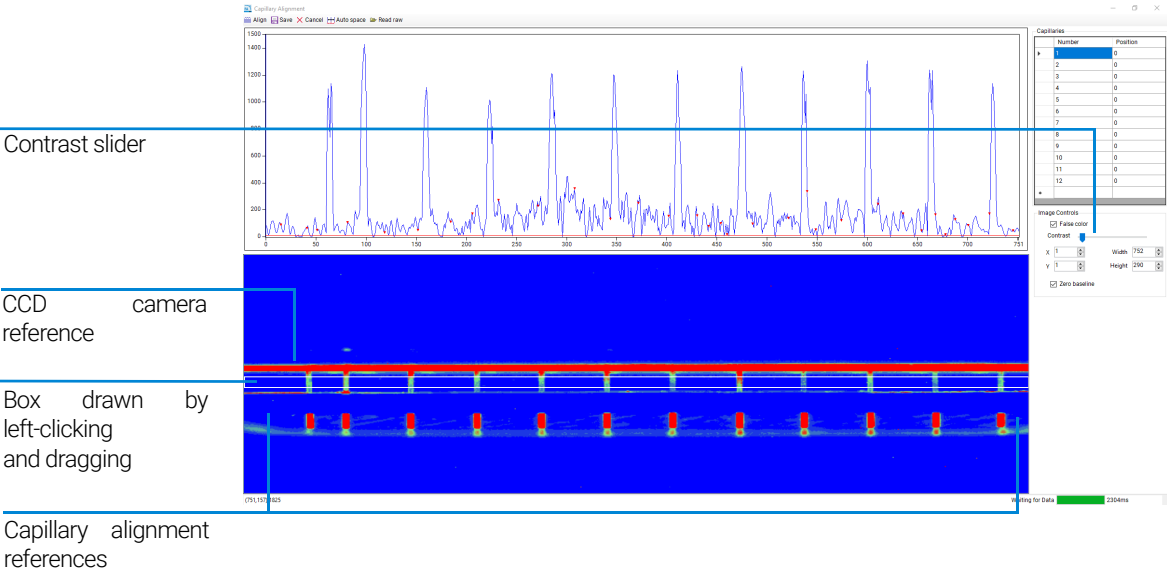

Figure 26 Capillary alignment display – window reset
3 Adjust the contrast slide bar to the left to brighten the display (**Figure 26**).
4 Draw a box around the capillary array display area. Left-click and drag the appropriate area. (**Figure 26**).
- 7 Click and drag the red baseline seen in **Figure 26** until a red triangle is observed on each capillary peak. This triangle determines where the blue vertical lines will be assigned in the next step. It is important to ensure this red line is above the baseline.